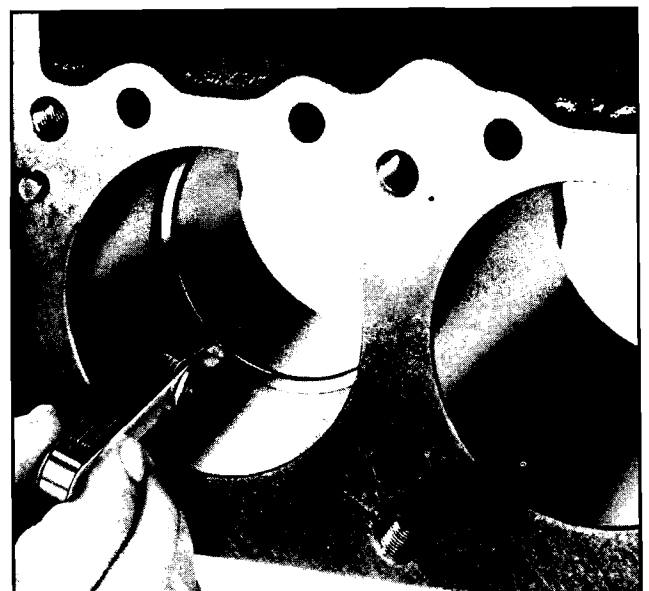

Fig. 6-124 Checking Ring Gap
3. Measure gap between ends of ring with feeler gauge (Fig. 6-124). Gaps should be as follows: